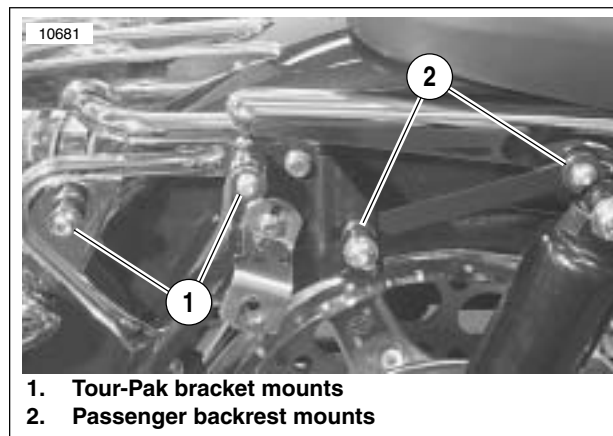

Figure 7-13. Passenger Backrest and Tour-Pak Docking Locations
See Figure 7-13. The Tour-Pak assembly mounts on the two rear mounting points (1) on each side of the vehicle.
10. See **Figure 7-13**. Install Tour-Pak on Tour-Pak bracket mounts (1) and lock latches in place.